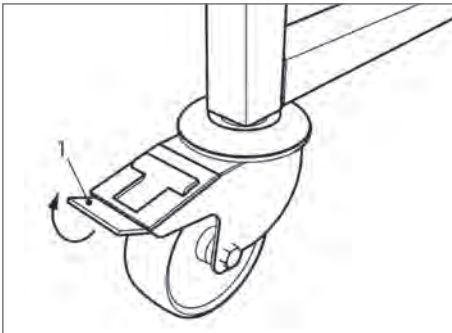

Figure 77
4. Engage the roller brakes of the casters as soon as you have reached the final position (see Fig. 77 | 1).